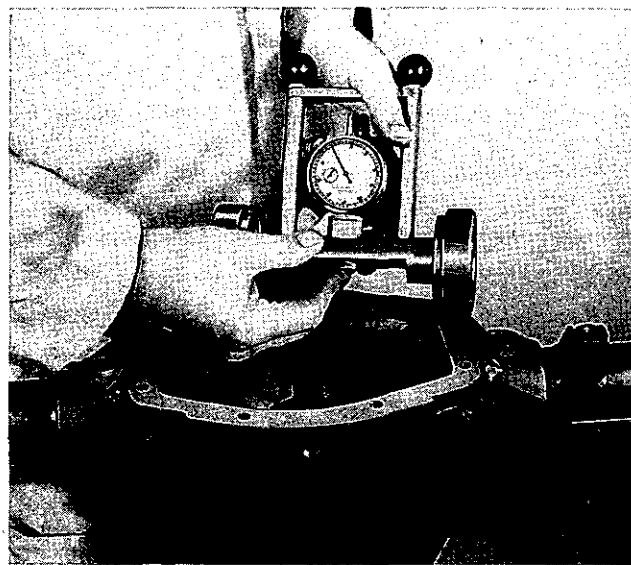

Fig. 13. "Zeroing" the fixture for estimating Pinion Bearing Shims—Tool No. M.84.
1. The fixture shown in Fig. 13 is inserted as shown in Fig. 14 in the axle casing and used to assess the shim thickness, which is required under the pinion head bearing, to bring the pinion into its correct datum position mentioned earlier.
3. Having inserted the measured pack of shims, the thickness of which was assessed with the fixture shown in Fig. 13 the pack of shims is inserted on the head bearing abutment face